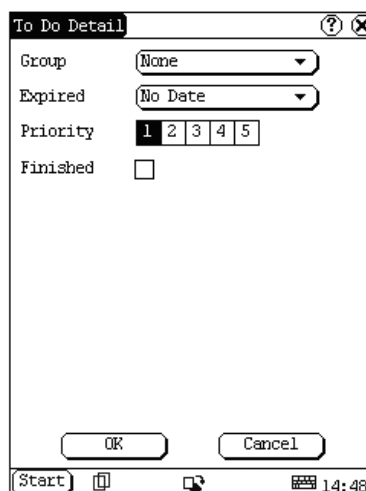

Fig 4-21
- 3) Click [Detail] button to open the To Do Detail interface. See Fig 4-21.